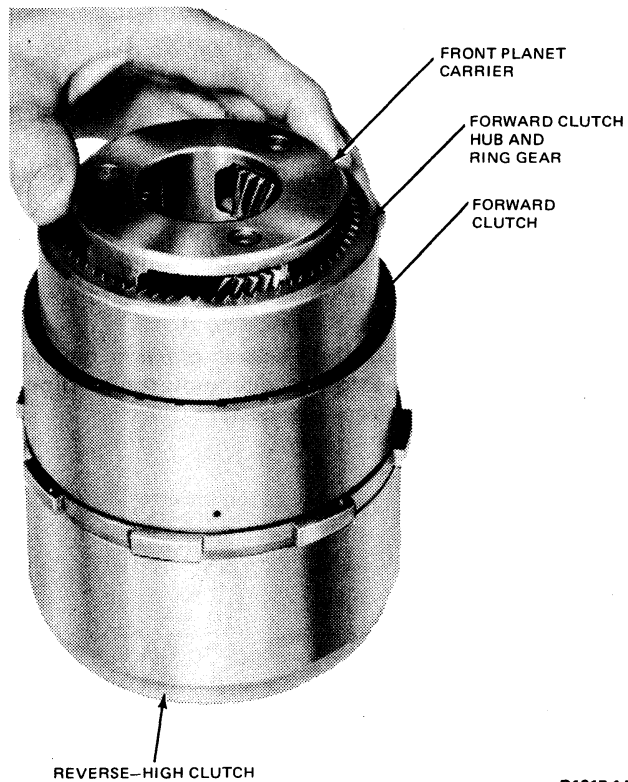
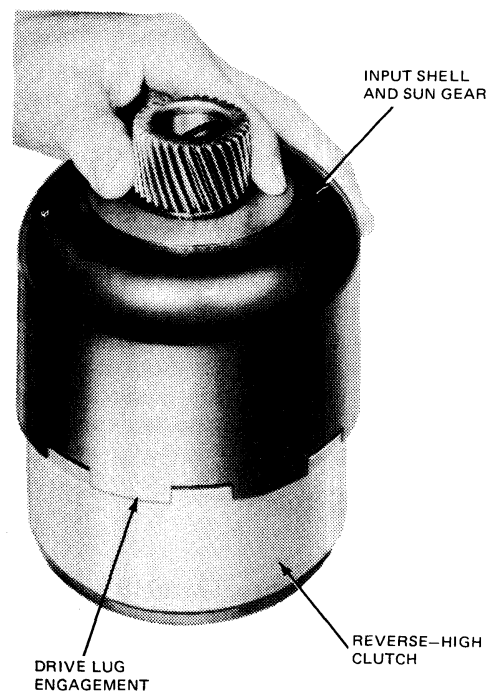

FIG. 45 Installing Front Planet Carrier
FIG. 46 Installing Input Shell and Sun Gear
the forward clutch hub and ring gear (Fig. 45). **Check the forward thrust bearing race inside the planet carrier for proper location against the thrust bearing. Make sure the race is centered for alignment with the sun gear on the input shell (Fig. 46).**
23. Install the input shell and sun gear on the gear train (Fig. 46). Rotate the input shell to engage the drive lugs of the reverse-high clutch. **If the drive lugs will not engage, the outer race inside the forward planet carrier is not centered to engage the end of the sun gear inside the input shell.** Center the thrust bearing race and install the input shell.